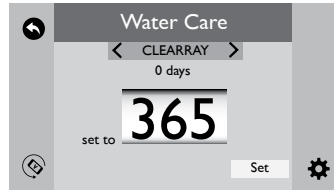
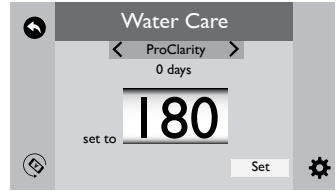
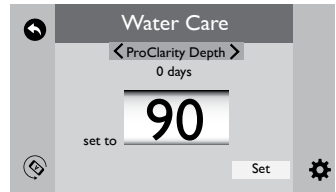

Figure 12.6c
Figure 12.6d
Figure 12.6e
1. When you enter the “Water Care” Menu, Figure 12.6c, you will be able to set the CLEARRAY UV bulb timer.
1. When you enter the “Water Care” Menu, Figure 12.6c, tap < or > until you reach the “ProClarity” option, Figure 12.6d.
1. When you enter the “Water Care” Menu, Figure 12.6d, tap < or > until you reach the “ProClarity Depth” option, Figure 12.6e.
1. While in the “Water Care” Menu, Figure 12.6e, tap < or > until you reach the “Water Change” option, Figure 12.6f.